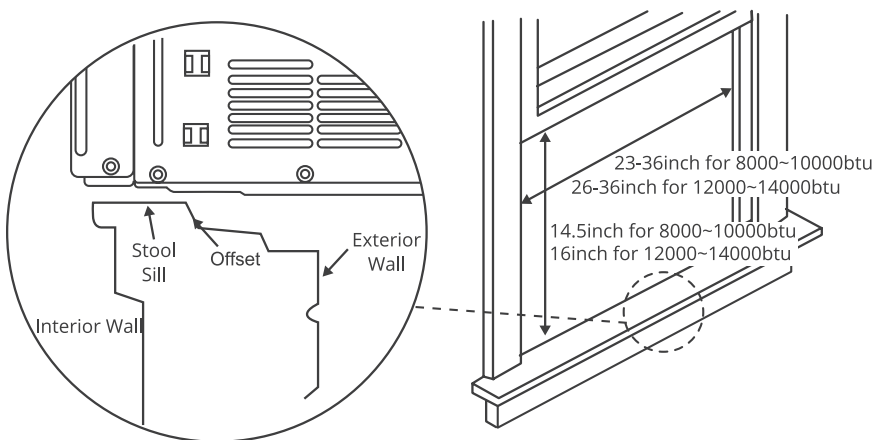

Fig.1
- The Lower Sash (the lower part of the window that moves up and down) must allow for 14.5" of vertical clearance when open, for 8000btu ~ 10000btu. (See Fig.1). For 16" of vertical clearance when open, for 12000btu ~ 14000btu. (See Fig.1).